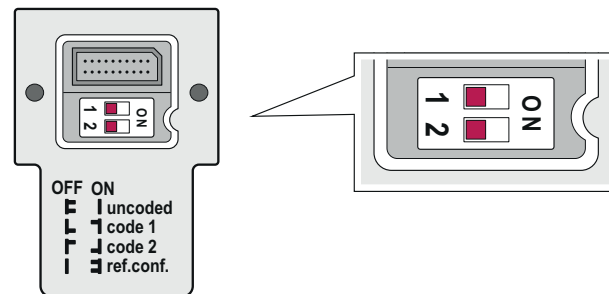

Figure 46: Reset to factory settings
3. Set both DIP switches to ON, see figure 46.